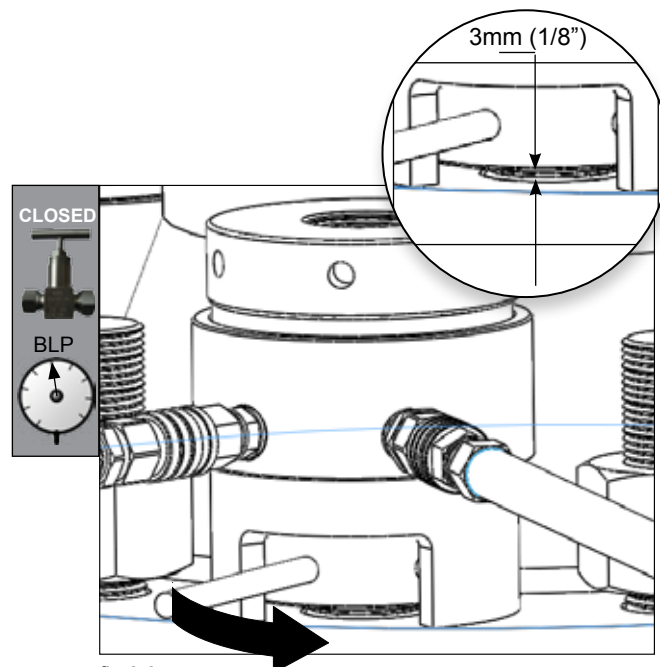

fig 8.3
5. Make sure the pressure is holding steady and using a tommy bar inserted in the nut socket, back off every joint nut (tensioner end) by 3mm (1/8"). Do not back off the nut to a greater value than the distance that you backed off the thread insert in step 2 see fig 8.3
12. Make sure the pressure is holding steady and using a tommy bar inserted in the nut socket, back off every joint nut (tensioner end) by 3mm (1/8"). Do not back off the nut to a greater value than the distance that you backed off the thread insert in step 2 see fig 8.3